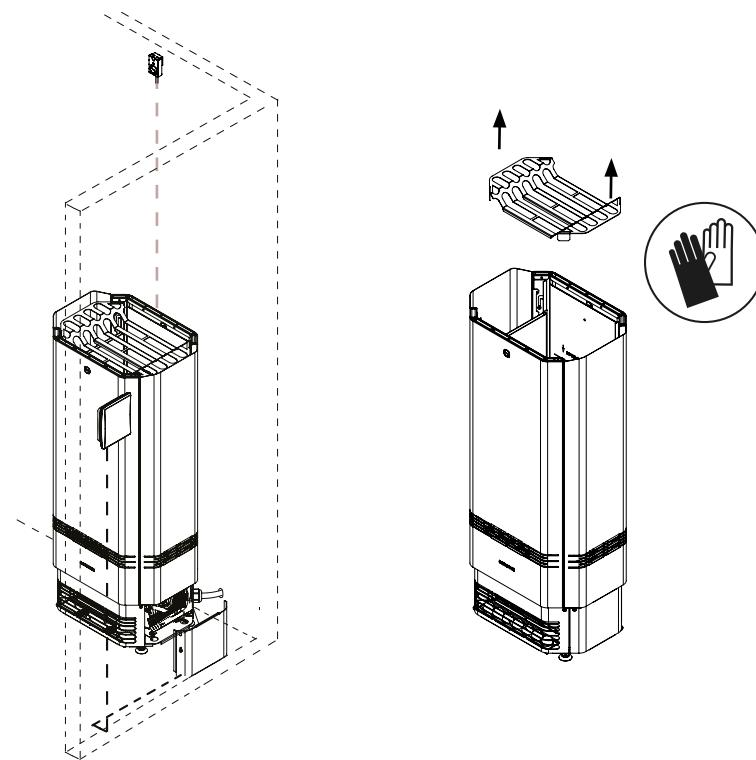

Figure 7
2. Remove the stone basket top grille by pulling it upward (**Figure 7**). Remove the padding from the heaters!